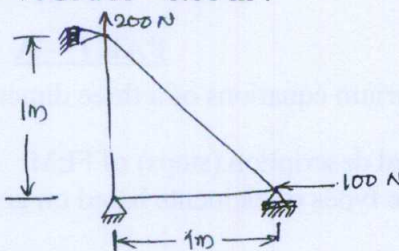

Fig Q6(b)
b. Determine the nodal displacements in the truss segments subjected to concentrated load as shown in Fig Q6 (b). Take $E = 70\text{GPa}$ $A = 0.01\text{ m}^2$. (10 Marks)